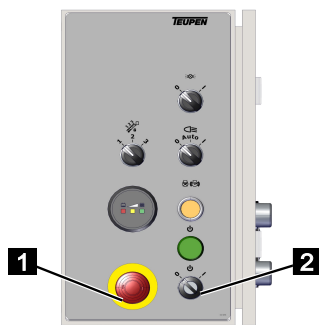

Fig. 69
1. Make sure that the emergency stop button (Fig.69/1) on the control box has not been actuated.
2. Turn the ignition key (Fig.69/2) clockwise to position [1].